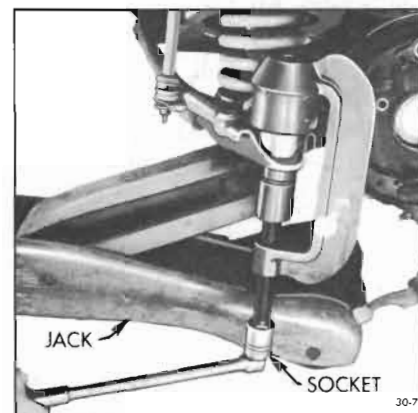

Figure 30-7—Lower Ball Joint Remover Installation
6. Install Lower Ball Joint Remover and Installer J-9519 as shown in Figure 30-7. Note that the larger O.D. portion of Detail J-9519-17 is positioned in J-9519-10.